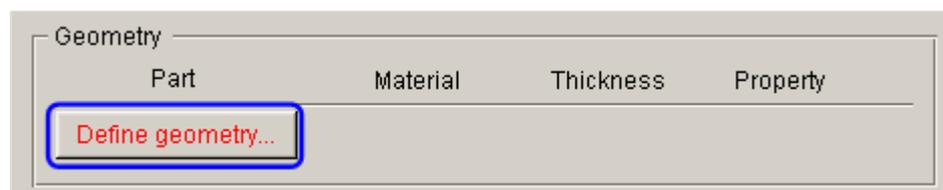

Figure 2.10 Define blank
2. Then, click **Define geometry...** button from **Geometry** field in blank definition interface. See Figure 2.10.